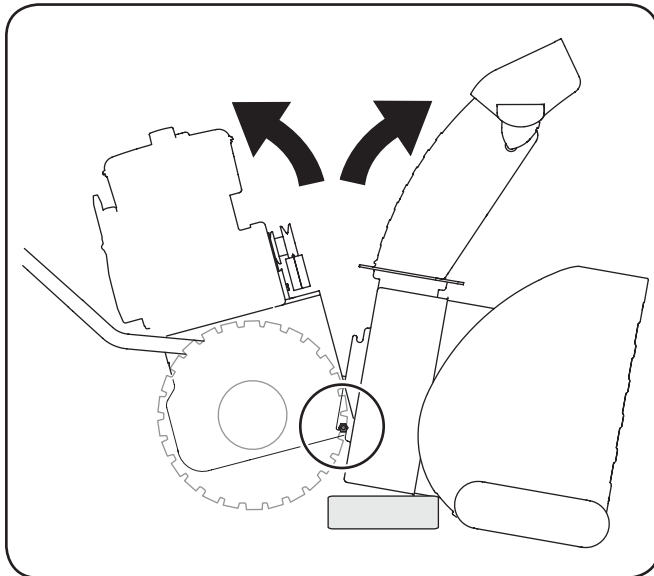

Figure 7-6
5. Place a block of wood underneath the auger housing as shown in Fig. 7-6 and separate auger housing from the transmission frame by tilting the housing forward and pulling up the handles.